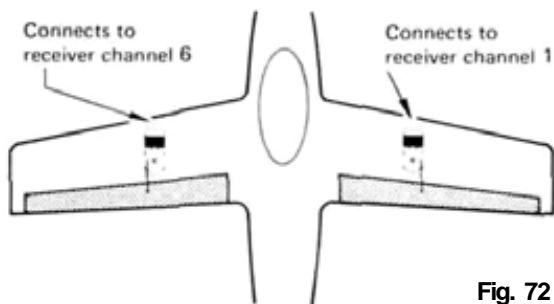

Fig. 72
- Set Switches 16 and 17 as shown in Fig. 72.